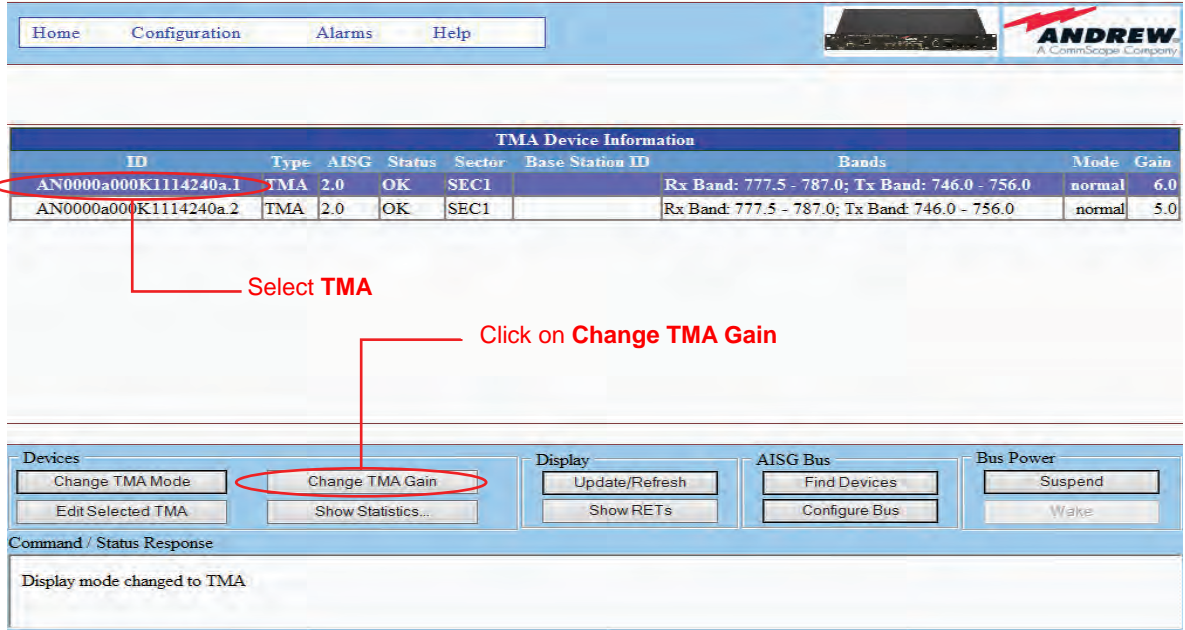
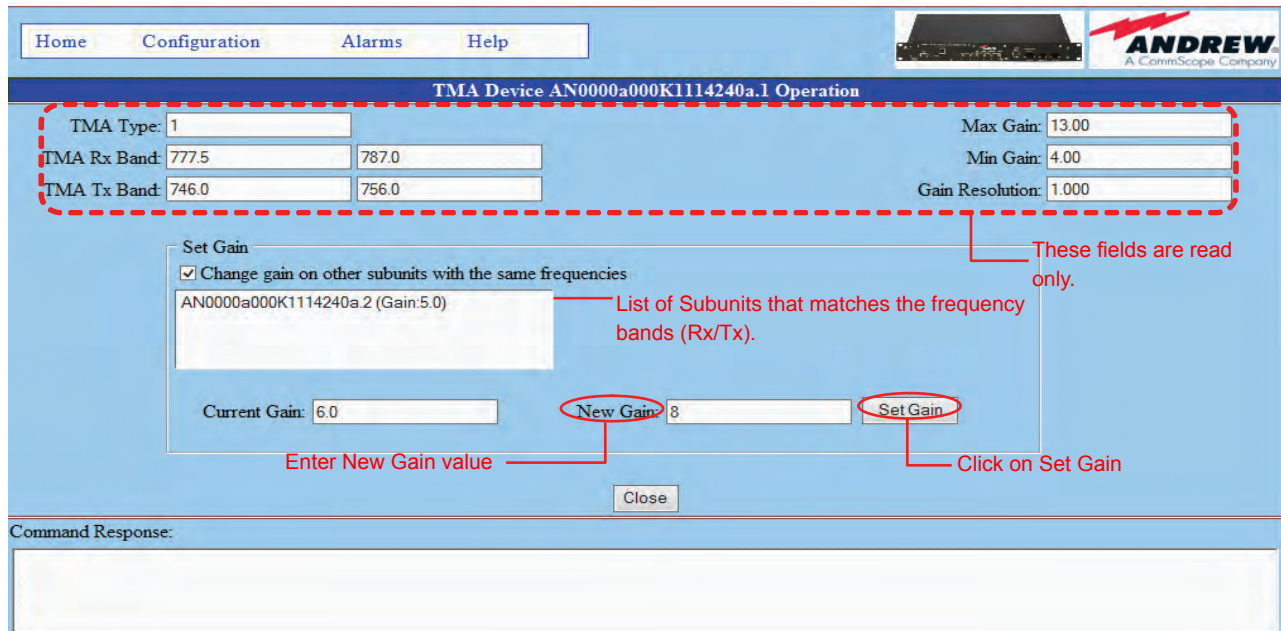

Figure 23-6. ATC300 Controller's Main Interface Screen – TMA View.
Figure 23-7. Changing the gain on a variable gain TMA.
- To change a TMA's gain, select the TMA from the TMA device information list on the controller's main screen, as shown in Figure 23-6. Then click on **Change TMA Gain** to enter the TMA Device Operation screen (Figure 23-7). Notice that the ID for the device that was selected from the main screen appears in the title bar of the Device Operation screen.
- To change the gain on a variable gain TMA, enter the desired value of gain in the **New Gain** field, and click on **Set Gain**. In Figure 23-7, current gain was 6 dB, and a new gain of 8 dB is being set. Note that for a fixed gain TMA, the **Set Gain** button is not available. Also this screen displays a list of TMA subunits that has the same frequency bands (TMA Rx and TMA Tx) as that of the current subunit. By selecting the checkbox “Change gain on other subunits with the same frequencies,” the listed sub units will also be set to the New Gain value when Set Gain is clicked. If this checkbox is not selected the New Gain value is sent only to the current subunit.